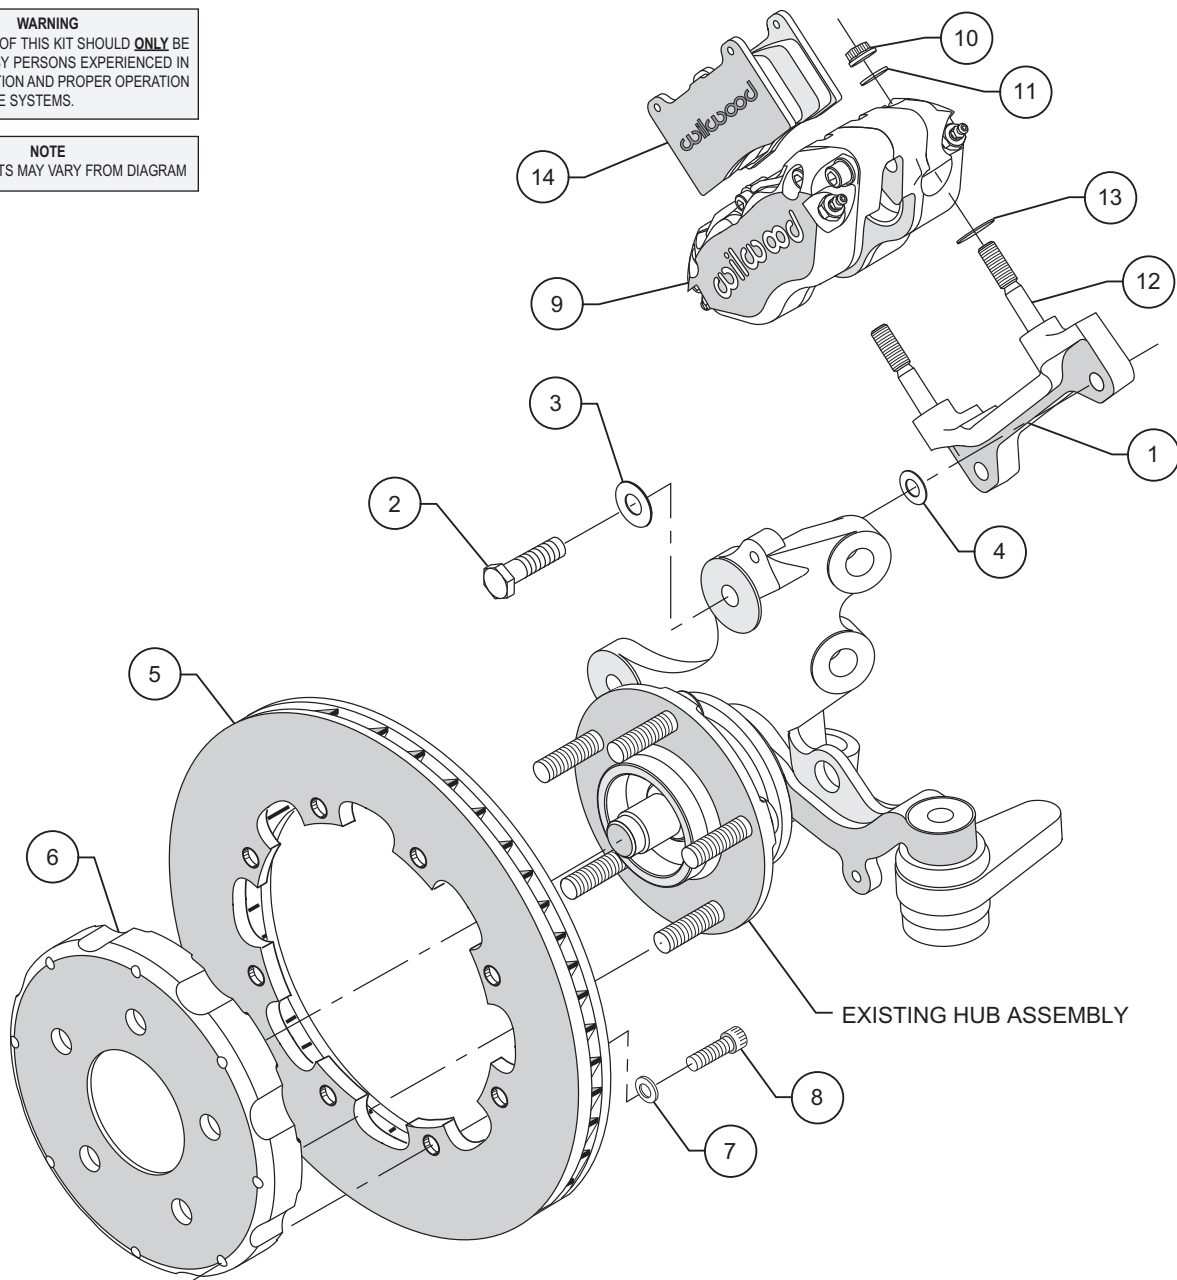
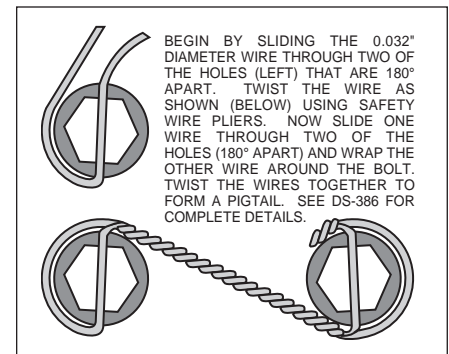

Figure 1. Typical Installation Configuration
Figure 3. Safety Wire Diagram
- The caliper mount bracket assembly (1) should be installed first with clean, dry threads on the mounting bolts. Install the bracket on the inboard side of the spindle by sliding bolt (2) through flat washer (3), and spindle ear from the outboard side of the spindle. Place shim washer (4) between the bracket (1) and the spindle (see figure 1). The bracket must tighten squarely against the inboard side of the caliper mount bosses on the spindle body. Inspect for interference from casting irregularities, machining ridges, burrs, etc. Use one thin shim (5) between the bracket and spindle during initial trial fitting. Later, after the caliper, pad, and rotor alignment has been checked, and any necessary shims have been put in place, the mount bolts should be coated with red *Loctite*® 271 and torqued to 65 ft-lbs.
- With the larger I.D. side of the rotor (5) facing away from the hat (6), bolt the rotor (5) to the hat (6) through the backside of the rotor using washers (7) and bolts (8) provided in the configuration pictured in figure 1. Be sure all bolts thread in smoothly and are snug. Then, torque all bolts in an alternating sequence to 180 **in-lbs**. Safety wire bolts (8) using standard 0.032 inch diameter stainless steel safety wire as shown in Figure 3. Please refer to Wilwood's data sheet DS-386 (available at www.wilwood.com/pdf/ds386.pdf) for complete safety wire installation instructions.
- Lubricate caliper mounting studs (12) and nuts (10) with lightweight oil. Install one shim (13) over each stud (12) on the radial mount bracket. Slide the caliper (9) in place over the studs and rotors and install the washer (11) and lock nut (10) to hold the caliper in place. The caliper bleed screws should be pointing up. Snug the lock nuts (10) and check that the rotor (5) is centered in the caliper (9). Add or subtract .015" shims (4) as necessary between the mount bracket and the spindle to center the caliper.
- Remove the caliper center bridge pad retainer bolt, nut, and tube from the caliper. Slide the brake pads (14) into place. They should install easily without interference. Check that the outside radius of the brake pad is aligned with the outside diameter radius of the rotor face. Add or subtract shims (13) between the caliper and mount bracket to gain the proper alignment. Reinstall the center bridge pad retainer tube, bolt, and lock nut. The locknut should be snug without play in the bolt or tube. Be cautious not to over tighten.
- Once all clearances have been checked, remove the wheel, caliper, hat, and rotor from the spindle and hub. Secure the caliper mounting bracket (1) to the spindle using red *Loctite*® 271. Torque the bolts to 65 ft-lbs. Reinstall the hat and rotor assembly and again use several lug nuts to hold it in place. Reinstall the caliper, torque the caliper nuts (10) to 30-35 ft-lbs.